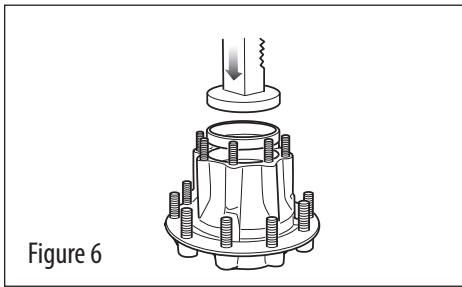

Figure 6
3. Iron hubs do not need to be heated for bearing cup installation. Press the bearing cup into the hub, being certain that it is fully seated (see Figure 6). Use a 0.001" to 0.002" feeler gauge to ensure the cup is fully seated against the shoulder of the bearing bore.